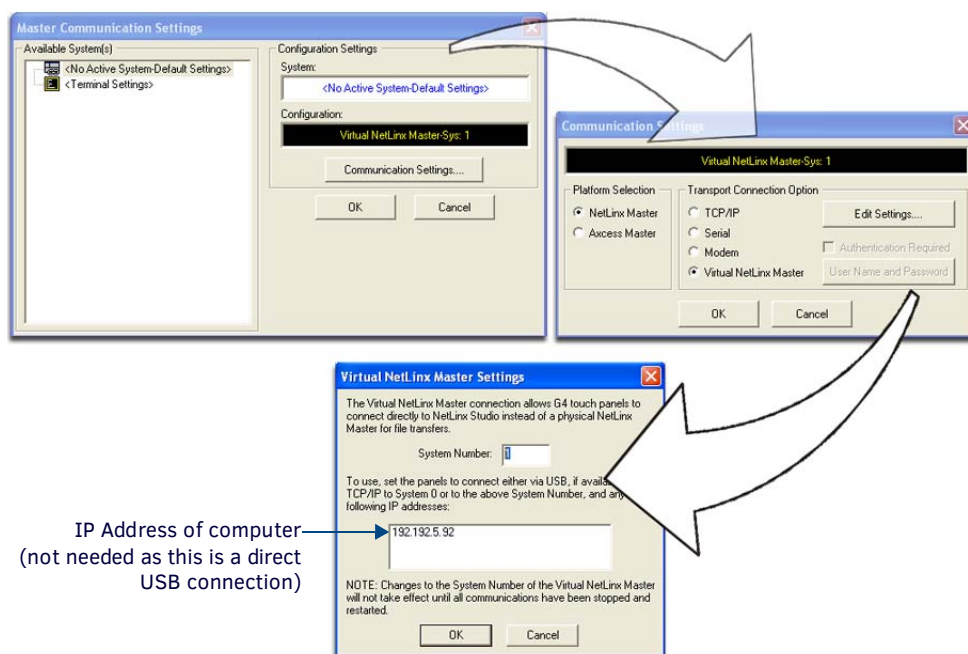

FIG. 90 Assigning Communication Settings for a Virtual Master
2. Select **Settings > Master Communication Settings**, from the Main menu to open the Master Communication Settings dialog (FIG. 90).
6. Click the **Edit Settings** button (*on the Communications Settings dialog*) to open the *Virtual NetLinX Master Settings* dialog (FIG. 90).